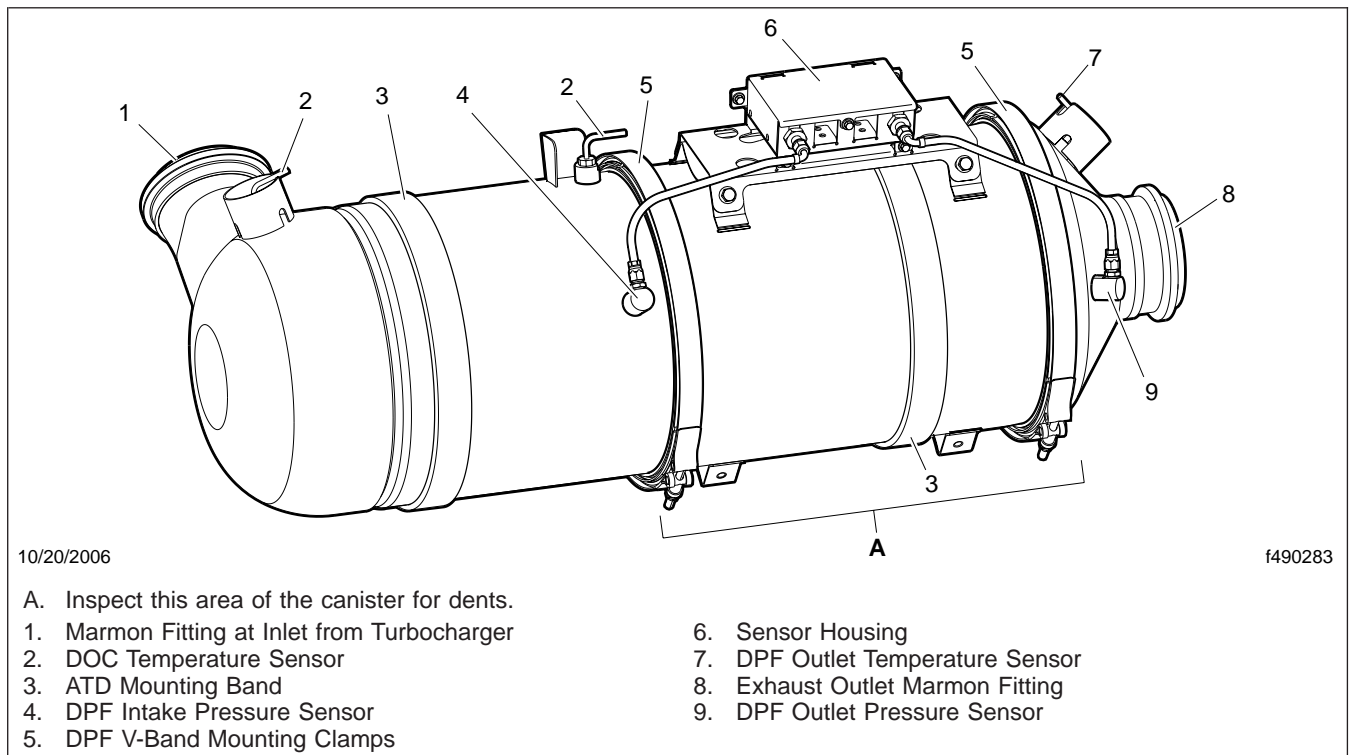

Fig. 6, Typical After-Treatment Device
IMPORTANT: The Environmental Protection Agency's 2007 regulations require lower exhaust emissions, thus requiring new exhaust system components. See Fig. 6. In particular the after-treatment device (ATD), which is part of the after-treatment system (ATS), requires special attention during regularly scheduled maintenance inspections. If any discrepancies are discovered, refer to the engine manufacturer's service literature for repair instructions.
7. Check the DPF exterior surface for dents or other damage. See Item A of Fig. 6. A dent over 3 inches (76 mm) in diameter and 1/4-inch (6-mm) deep could cause internal damage to the DPF, causing it to malfunction.